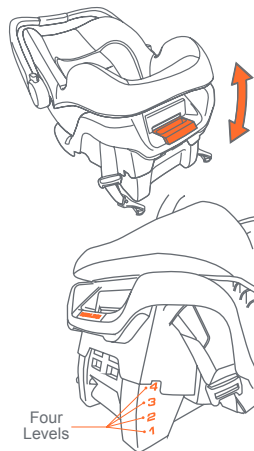
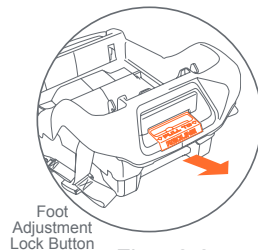

Fig. 52-1
Fig. 52-2
- To extend the foot of the base, Pull outward on the hand hold as shown in (Fig. 52-1) while holding onto the base. To retract the foot, pull outward on the lock handle as shown in (Fig. 52-2) and push upward on the foot. Be careful not to pinch your finger as the foot retracts. Check the level indicator to see if the seat is now level.